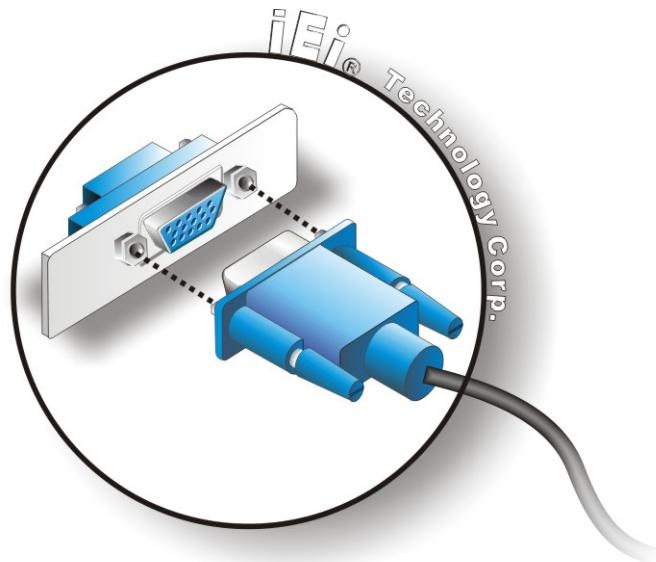

Figure 4-21: VGA Connector
Step 3: Insert the VGA connector. Once the connectors are properly aligned with the insert the male connector from the VGA screen into the female connector on the PICOe-PV-D4251/N4551/D5251. See **Figure 4-21**.